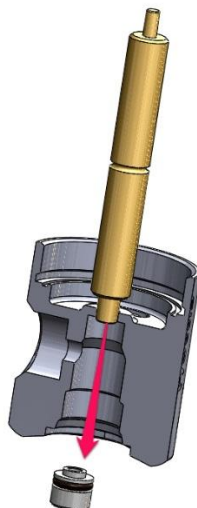

Fig. 22
27. Insert the larger diameter post of the seat tool 40.6536.2 into the low-pressure side of the body 01.000164.8 and push out the HP seat 6493 (Fig. 22). Remove O-ring V2.010 from HP Seat 6493 and discard.